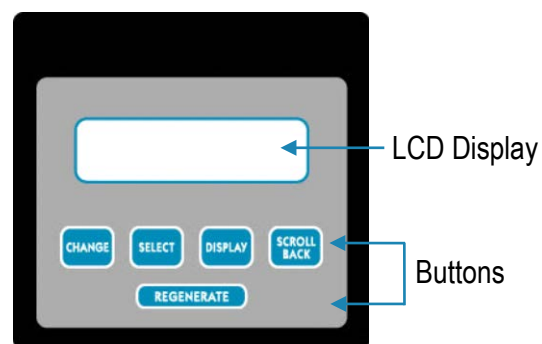

Figure 11: Five-Button Controller
- D. Open a cold water tap and allow the appliance to flush for 20 minutes or until approximately 72 gallons (275 L) have passed through the appliance. This procedure is required to meet NSF compliance. Verify the flow rate on the controller, which indicates water flow. See Figure 11.